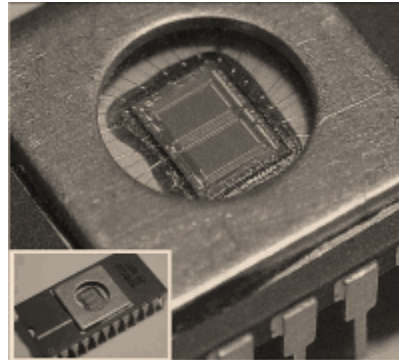

Figure 5 : UV erasable programmable ROM⁴
3. **UV Erasable Programmable ROM (UV EPROM) :** Both the manufacturing process and characteristics of this memory are completely identical to OTP ROM. However, the package of this microcontroller has a recognizable “window” on the upper side(Figure 5). It enables the surface of the silicon chip inside to be lit by an UV lamp, which effectively erases and program from the ROM. Installation of this window is very complicated, which normally affects the price.